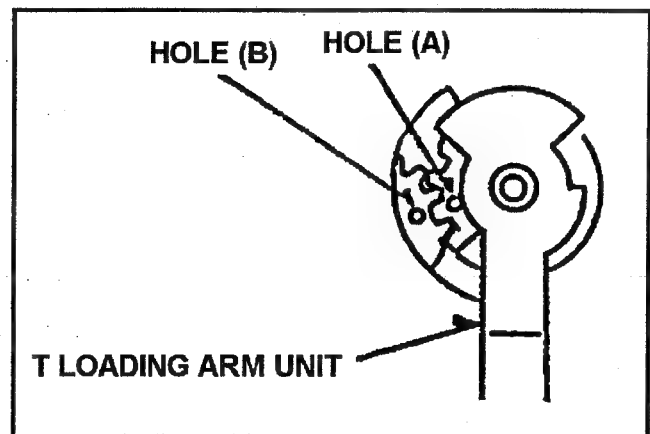

Fig. 6-14-1 Phase Adjustment of T1 Loading Arm Unit
1. When install the T1 Loading Arm Unit, the hole (A) should be matched with the hole (B) as shown in Fig. 6-14-1.
3. Post Height Pre-adjustment (Refer to item 5-5) and Linearity Adjustment (Refer to item 5-18 [Tape Pass Adjustment Procedure]) should be performed.